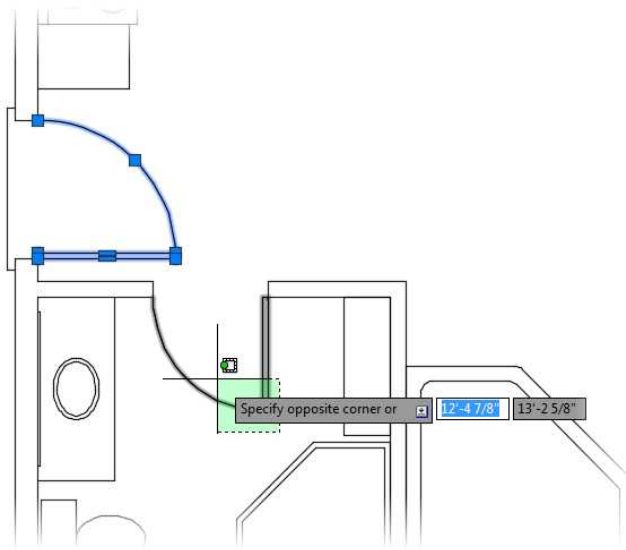

FIGURE 6.24: Using a rectangular selection window to select the bathroom door and swing line
3. Move to the bathroom, and select its door by picking a point to the right and then picking a point to the left, as shown in Figure 6.24.